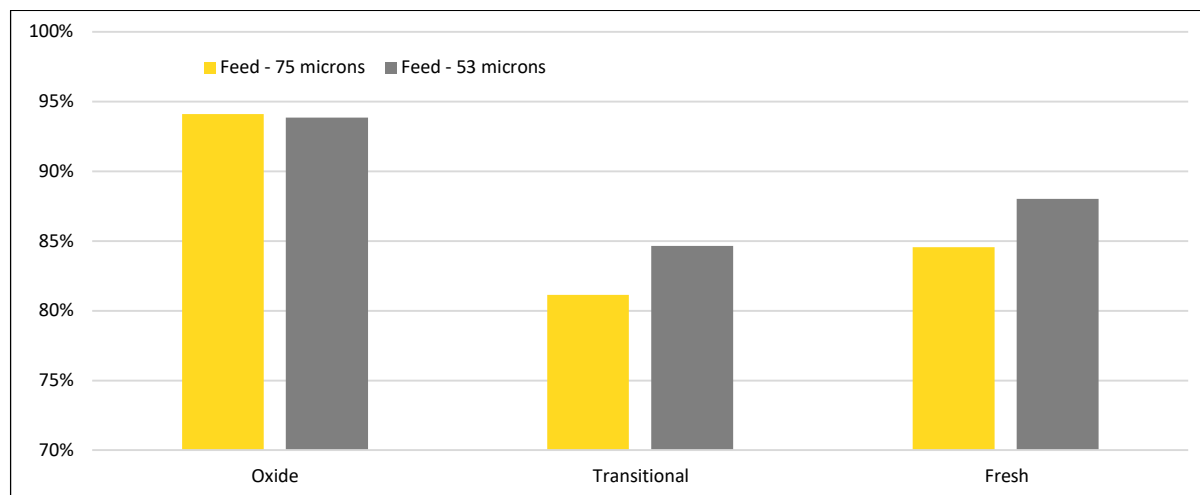

Figure 1: Total gold recovery at P80 grind size of 75µm and 53µm
- ▶ For the transition and fresh mineralisation, reducing the grind size from 75 to 53 microns improved gold recovery (Figure 1).